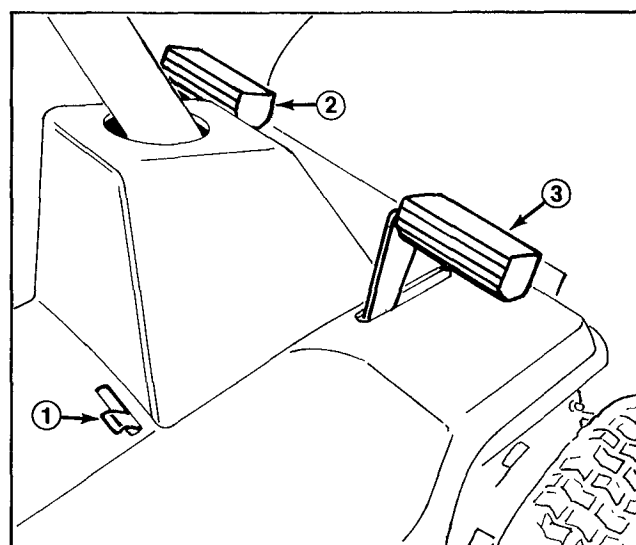

Figure 6
Clutch Pedal (Fig. 6) — Foot-operated clutch pedal is used in conjunction with gear shift. Depress clutch pedal fully when shifting gears, which moves idler pulley away from traction drive belt and disengages power to wheels. Depress clutch pedal whenever brake is used.
Brake Pedal (Fig. 6) — Foot-operated brake pedal must be depressed to slow down or stop the rider. When pedal is depressed, a caliper engages the brake disc at side of transmission. Remember to depress clutch pedal when using brake.
Parking Brake (Fig. 6) — Parking brake must be used in conjunction with brake pedal. When pedal is depressed and end of parking brake lever holds pedal in depressed position, a caliper engages the brake disc at side of transmission.
Ignition Switch (Fig. 6) — Switch on electric start model has three positions ON, OFF and START. Switch on recoil model has two positions ON and OFF.
1. Engage the parking brake (Fig. 6); refer to Using Parking Brake, page 14.
2. Move parking brake control to the left and release brake pedal until it contacts end of parking brake lever (Fig. 6).
3. To release the parking brake, depress brake pedal (Fig. 6), which will allow parking brake lever to return to its disengaged position. Then release brake pedal.